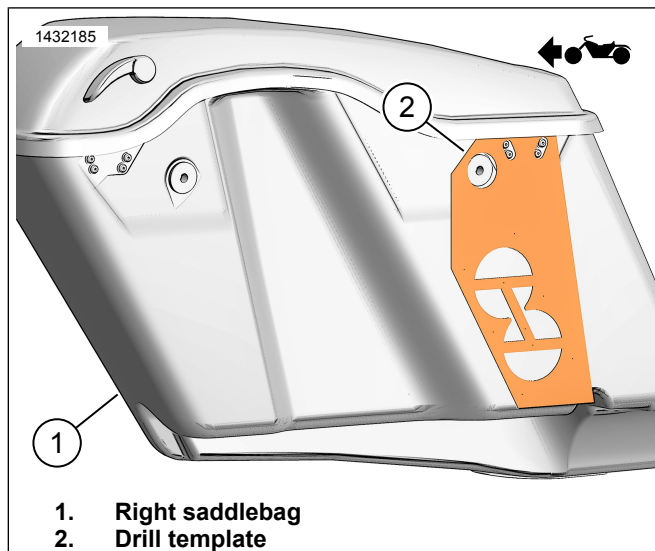

Figure 9. Right Saddlebag Template
1. See Figure 9. Position template (2) on right saddlebag (1).